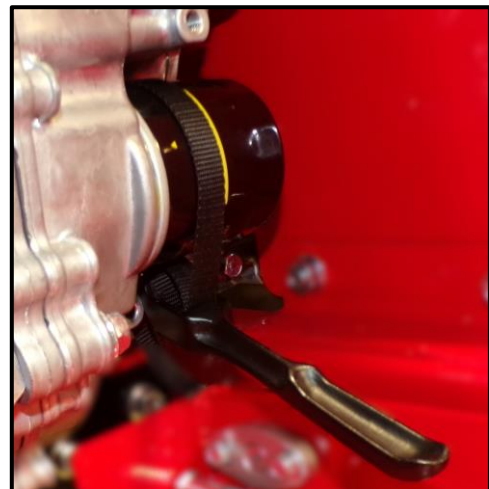

Figure 5 Oil Filter Removal
11. Remove the old filters [Figure 5] using filter wrench as shown if required.